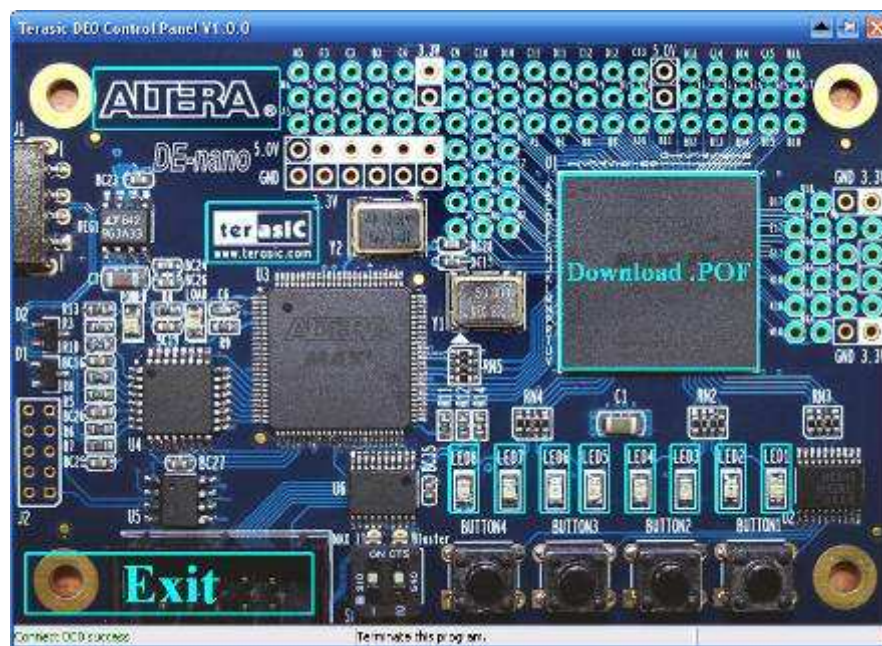

Figure 3.2. The MAX II Micro Board Control Panel window.
6. Start the executable *DEN_Control_Panel.exe* on the host computer. The Control Panel user interface shown in Figure 3.2 will appear.
7. The Control Panel also can download the configuration file *DEN_Control_Panel.pof* into the CPLD by clicking the icon of **Download . POF** as shown in Figure 3.2.